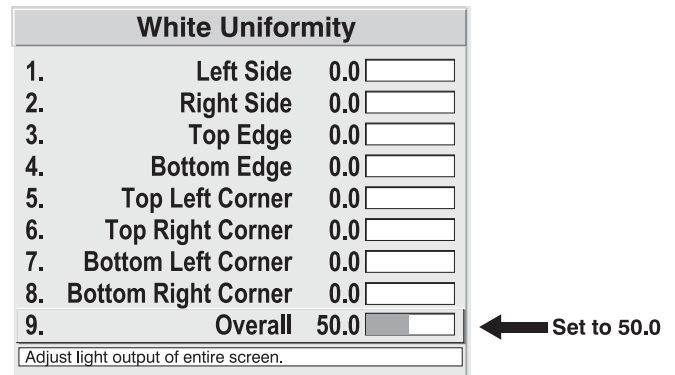

Figure 3.44.
- 1e) In the *White Uniformity* menu, reduce each color light output level to **50.0**. This decreases the light output from each color *just enough* throughout the screen so that any color level can then be *increased* later as necessary for matching light output from zone-to-zone. Do not exceed **50.0**—a higher level will likely interfere with achieving brightness uniformity and is *not recommended*. See Figure 3.44.